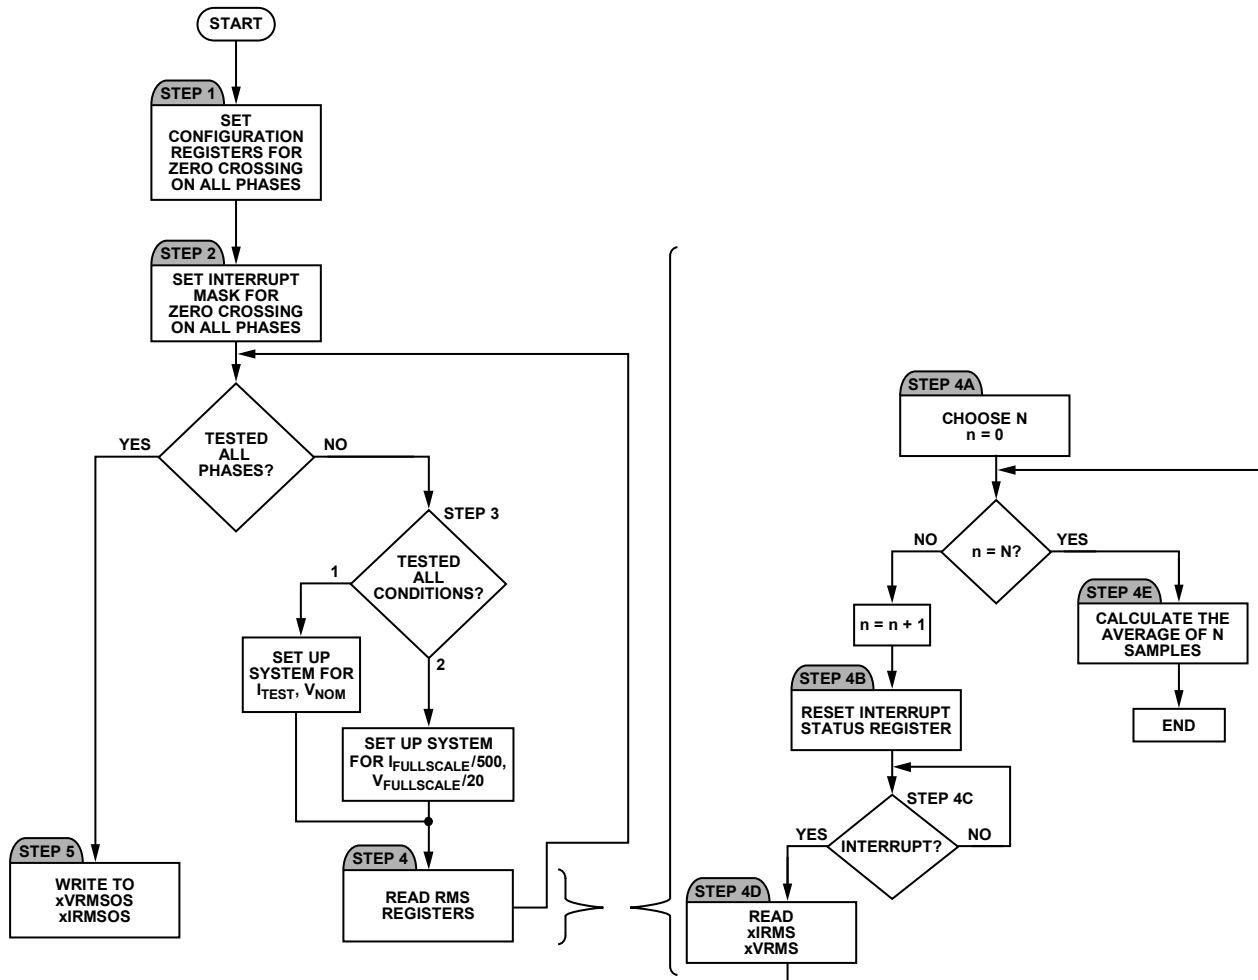

Figure 85. RMS Calibration Routine
To measure the current rms offset (IRMSOS), measure rms values at two different nonzero current levels, for example,  $I_{TEST}$  and  $I_{FULLSCALE}/500$ . This translates to two test conditions:  $I_{TEST}$  and  $V_{NOM}$ , and  $I_{FULLSCALE}/500$  and  $V_{FULLSCALE}/20$ . Figure 85 shows a flowchart for calibrating the rms measurements.
Step 4: Read the rms registers after the zero-crossing interrupt and take an average of N samples. This is recommended to get the most stable rms readings. This procedure is detailed in Figure 85: Steps 4a through 4e.